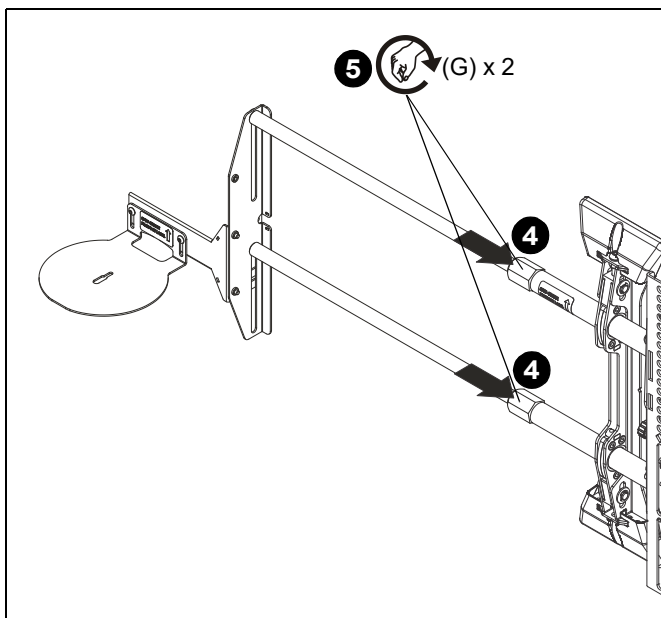

Figure 5
- Insert ends of extension bars (F) into open endings of mounting system. (See Figure 5)
- Tighten bushings (G) to secure extension bars (F) to mounting system at desired location. (See Figure 5)